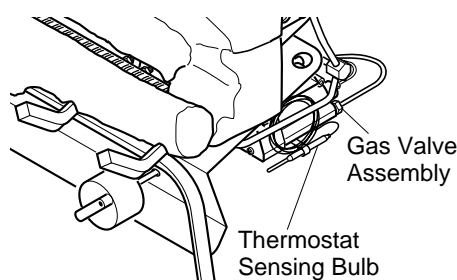

Figure 30 - Location of Gas Valve Assembly and Thermostat Sensing Bulb
1. Locate the gas valve assembly and thermostat sensing bulb (see Figure 30).